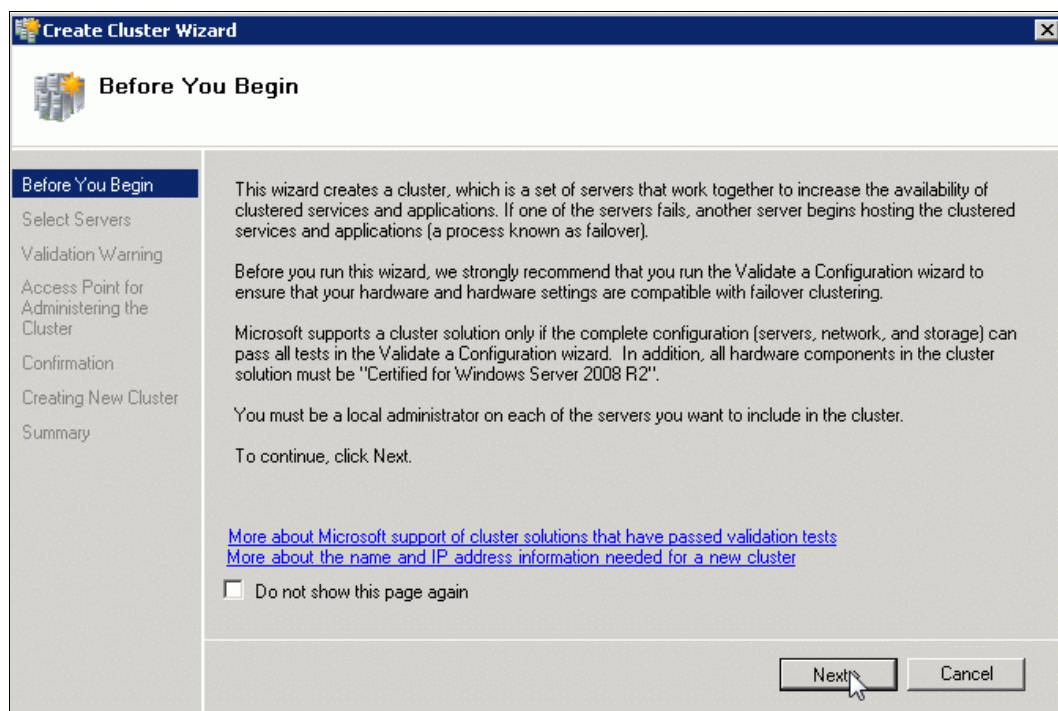

Figure 3-30 Create Cluster Wizard welcome window
5. Ensure that only one node accesses the shared disks until the cluster service is installed on all nodes. This restriction must be done before you continue to the Cluster wizard (see Figure 3-30). You no longer must turn off all nodes as you did with Windows Server 2003. You can bring all nodes into the cluster in a single step. However, no one is allowed to work on the other nodes.